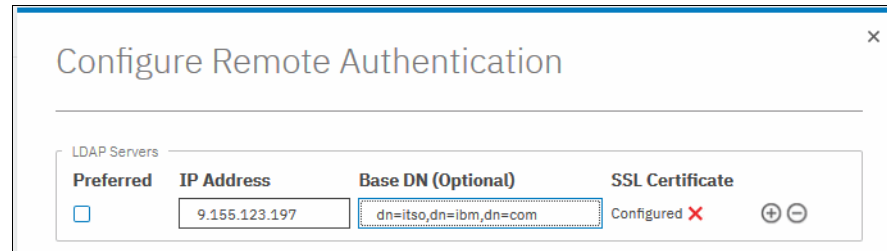

Figure 3-58 Configure Remote Authentication: Creating an LDAP server
3. Enter the server settings for one or more LDAP servers, as shown in Figure 3-58.